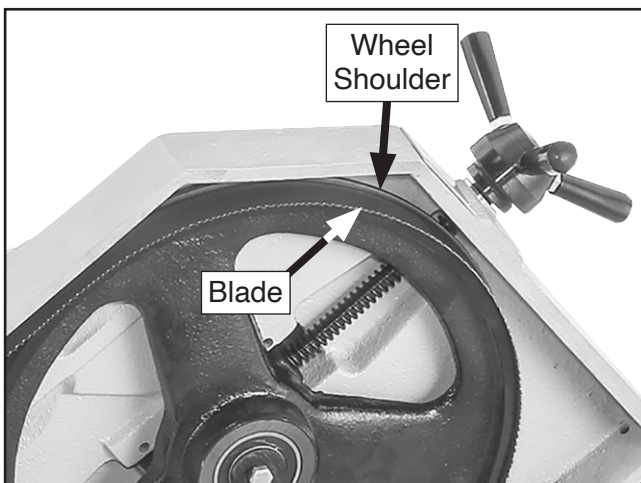

Figure 73. Location of wheel shoulder.
- Tightening set screw will move blade closer to shoulder of wheel (see **Figure 73**).
- Loosening set screw will move blade away from shoulder of wheel (see **Figure 73**).